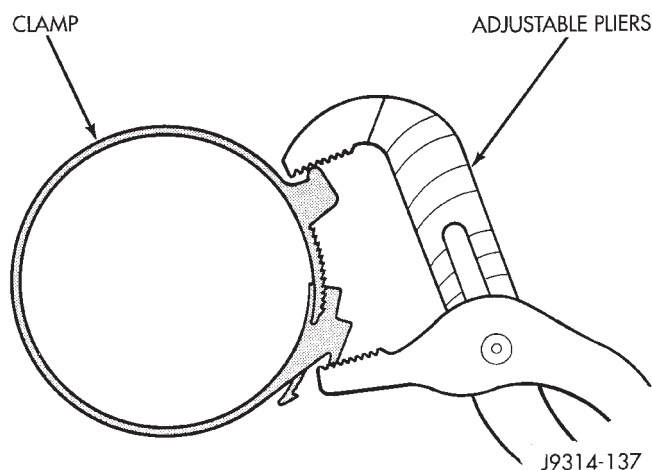

Fig. 4 Clamp Installation
(3) Install crankcase breather/filter hose to cover.
(4) Install clamp to cover. Compress the clamp snugly with adjustable pliers as shown in figure 4.